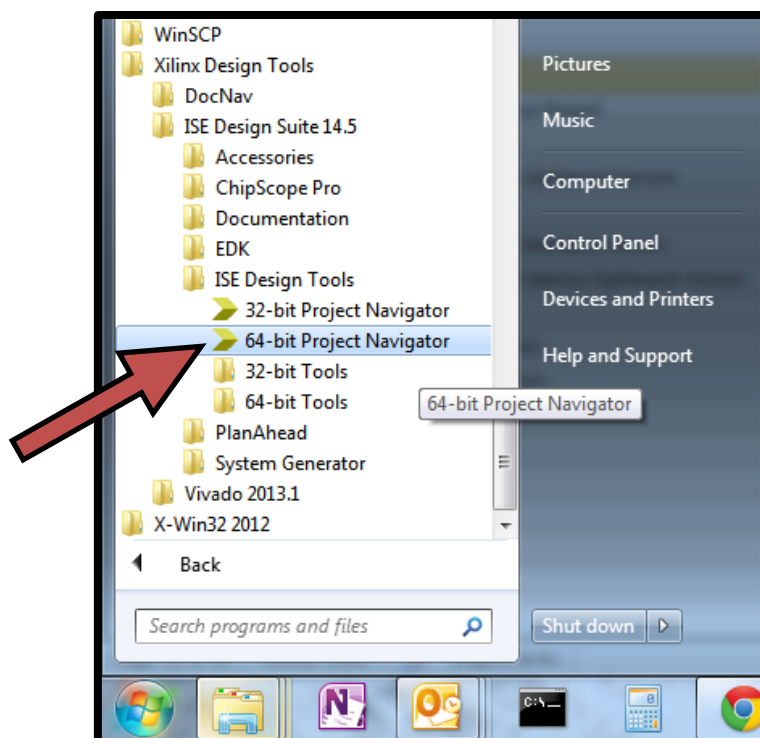

Figure 24: Opening ISE
8. Open ISE (It may be both, 32bit or the 64bit versions) (see Figure 24).